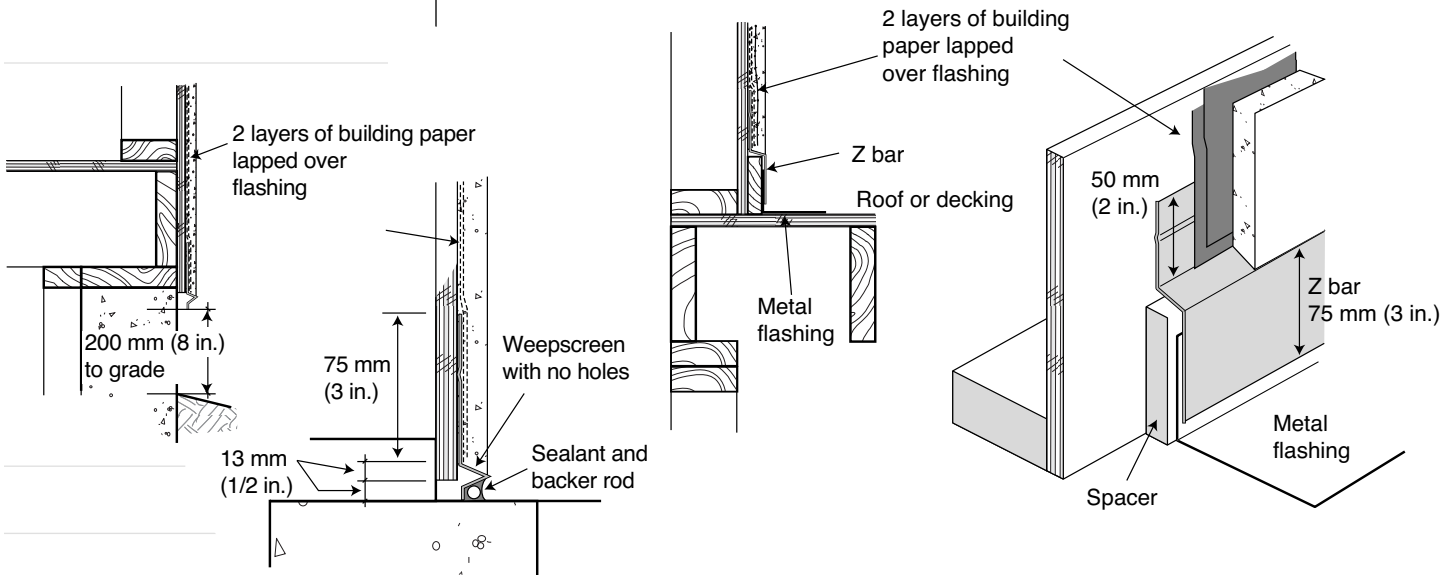

FIGURE 53
- ◆ Apply flashings and counterflashings where stucco intersects with a horizontal surface, such as a flat roof (see Figure 53).